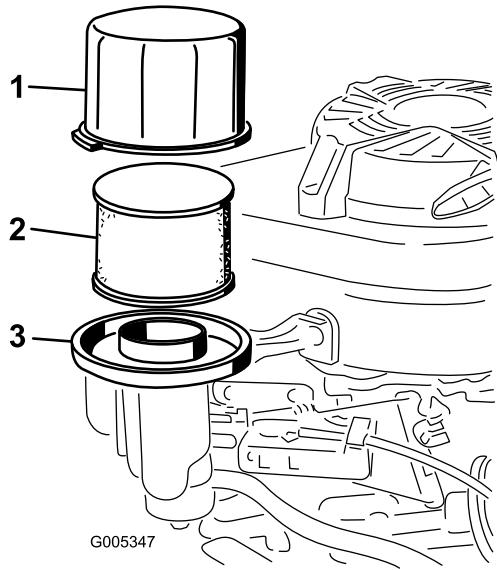

Figure 21
3. Remove the cover and clean it thoroughly (Figure 21).
4. Remove and the foam pre-cleaner and the paper-air filter from the air-cleaner base (Figure 21)